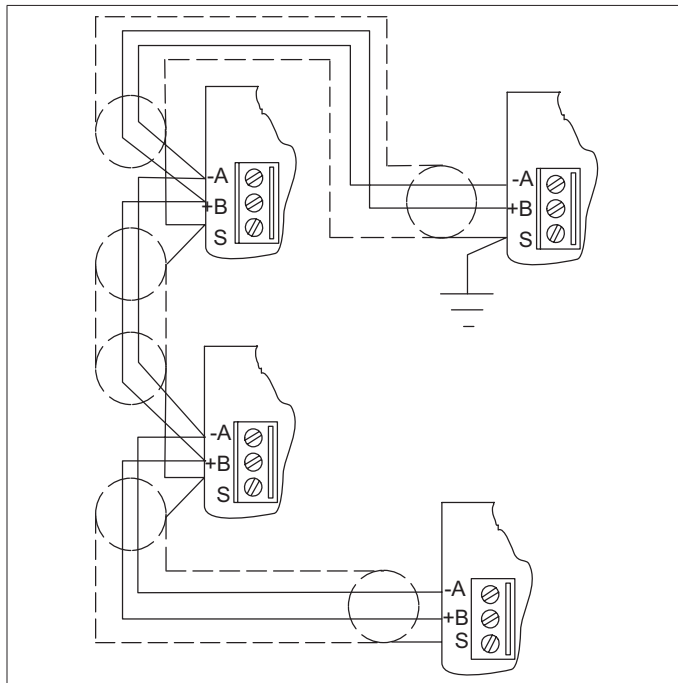
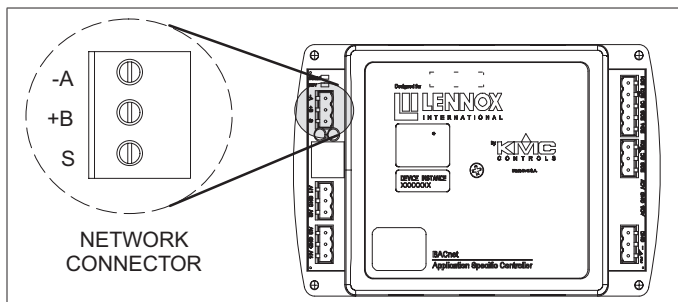

Figure 1. MS/TP Network Wiring
Figure 2. Network Connections
Connect the -A terminal in parallel with all other terminals. Connect the +B terminal in parallel with all other + terminals. Connect the shields of the cable together at each controller using the S terminal. See "Figure 1. MS/TP Network Wiring" for MS/TP network wiring. It is recommended that the physical network be arranged in a daisy chain topology.
4. Connect the BACnet network wiring to the BACnet module as shown in figure 1 to the BACnet network connector shown in "Figure 2. Network Connections".